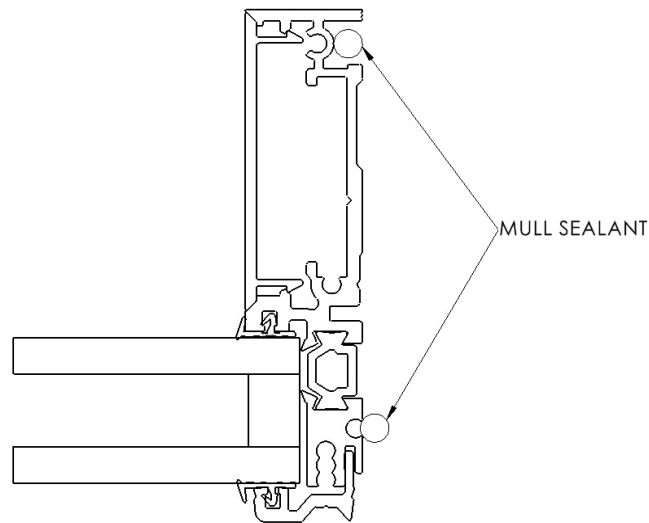

Figure 7
6. Apply a 1/4" diameter bead of Dow 795 sealant or equivalent sealant in the mull clip groove and at the sealant groove. (See Figure 7)